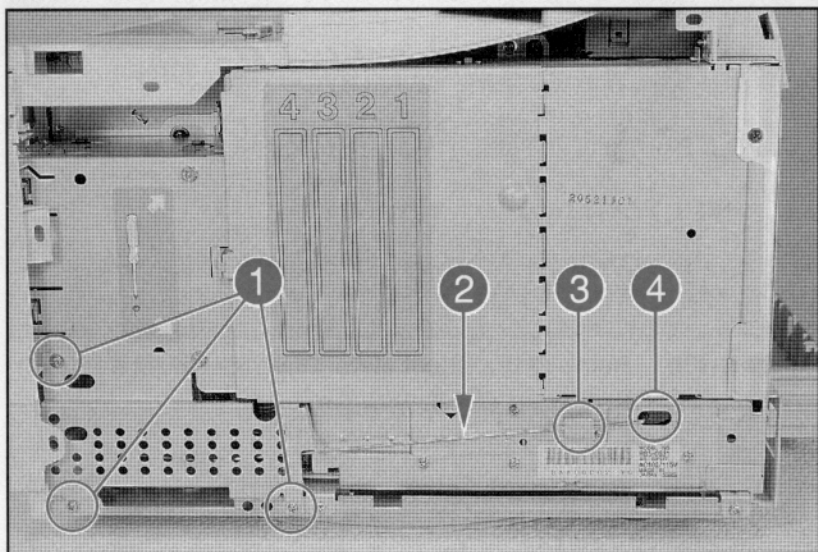

Figure 6-13a Remove the Sheet Metal Plate (LaserJet 4)
- 2 Remove the (3) or (2) screws from the metal cover at the lower right corner of the printer (see Figure 6-13a or b, callout 1.) Remove the metal cover.